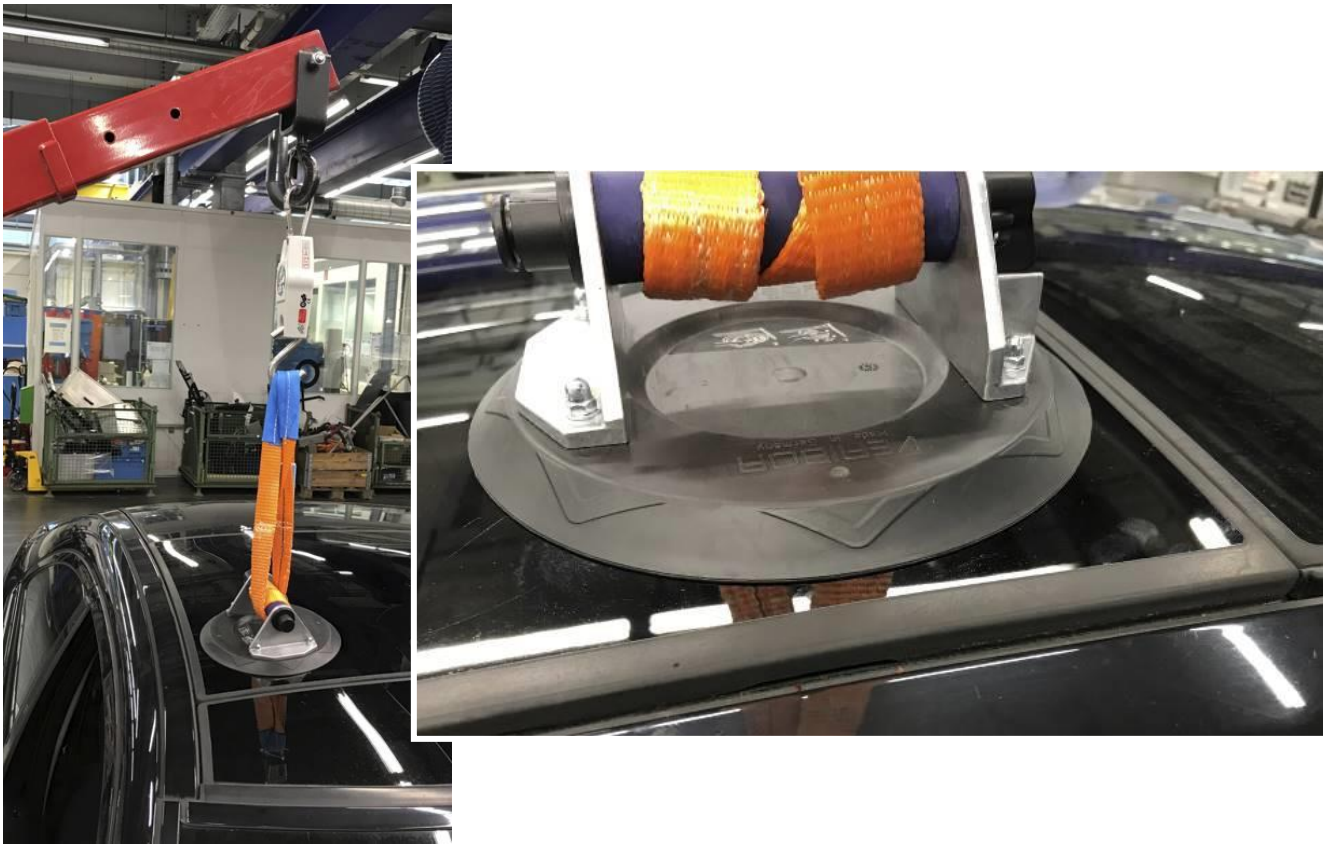

Figure 3
3. Position suction cup tool (**Figure 3**) and pull as **vertically** as possible (tolerance of ± 10 degrees) using lifting tool.